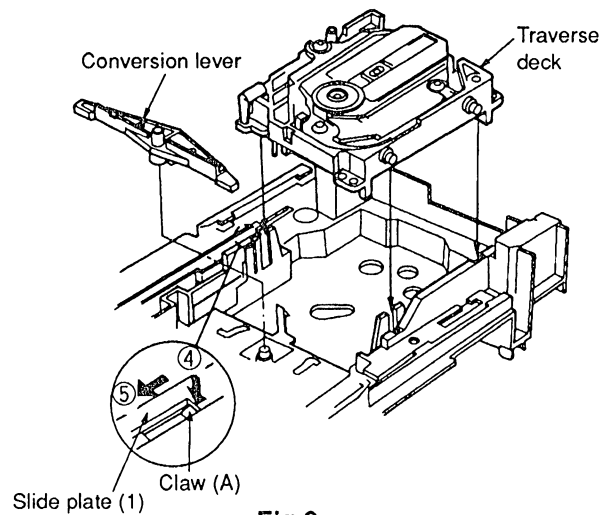
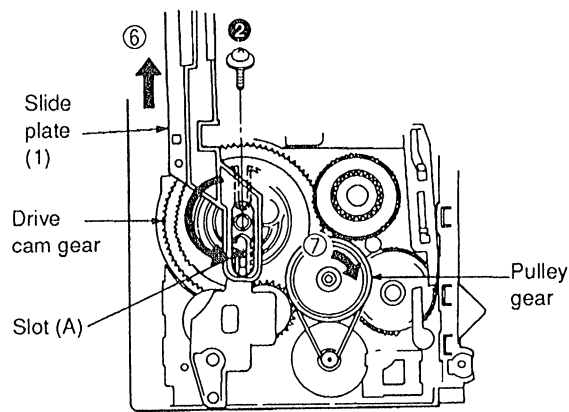

Fig. 9
Fig. 10
14. Press catch (A) in the direction of arrow ④ and then push slide (1) of the loading unit in the direction of arrow ⑤. (See Fig. 9)
15. Install the traverse deck and the conversion lever. (See Fig. 9)
16. Push slide plate (1) in the direction of arrow ⑥, so that the catch (A) in Fig. 9 engages with slide plate (1).
17. Secure slide plate (1) with a screw ②.
18. Rotate the pulley gear in the direction of arrow ⑦ so that slot (A) of the drive can gear is in the position shown in Fig. 10.